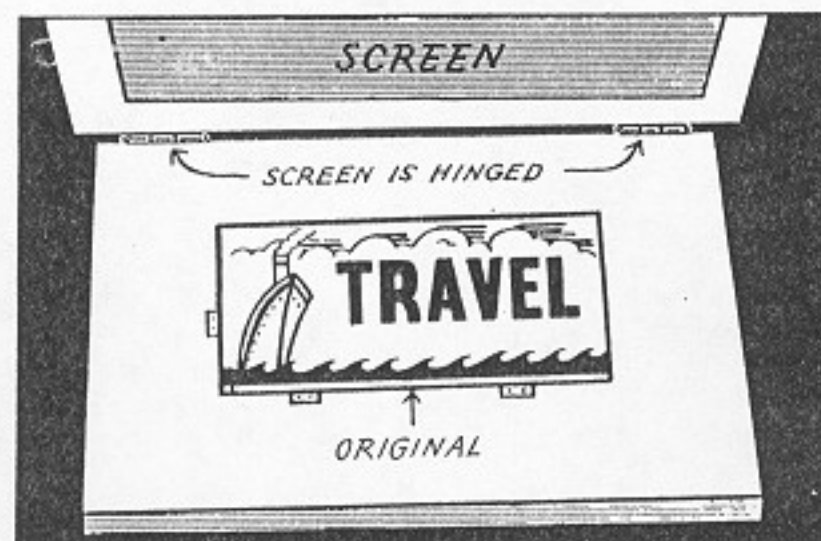

Fig. 87. Original in Position
1. Place the original copy in register under the screen frame, Fig. 87.